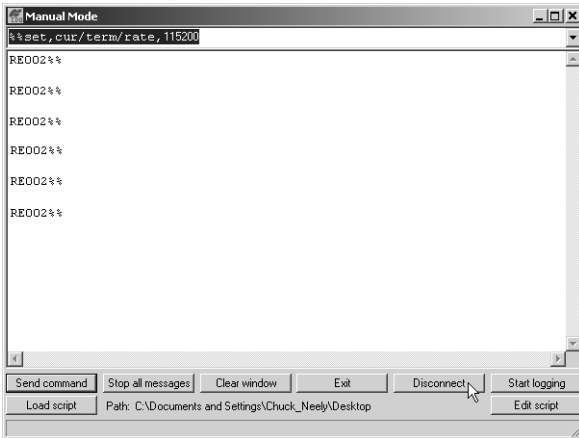

Figure 2-36. Manual Mode Command Responses
17. On the Manual Mode screen, write the following commands, pressing **Enter** (or clicking **Send command**) after each command. When finished, you should have six responses (Figure 2-36).
18. Click **Disconnect** (Figure 2-36). Continue with other configuration or operation functions as needed.